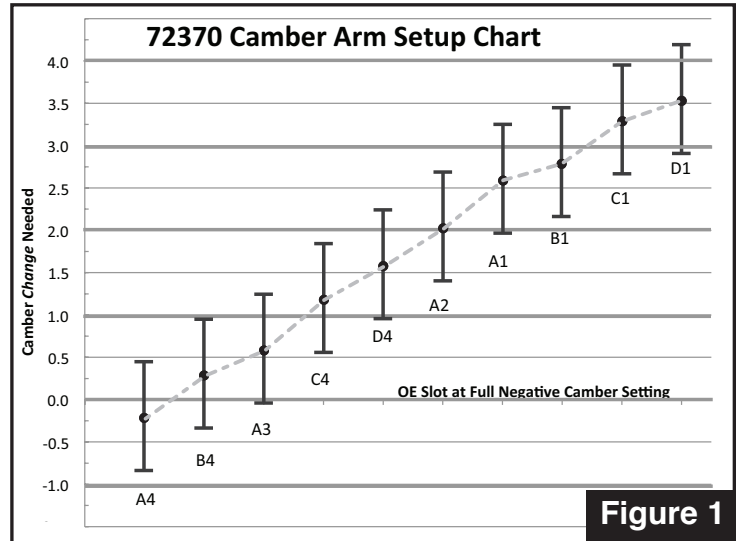

Figure 1
- Use **Figure 1** to choose which letter-number combination will give camber *change* needed per side to adjust vehicle to desired spec.